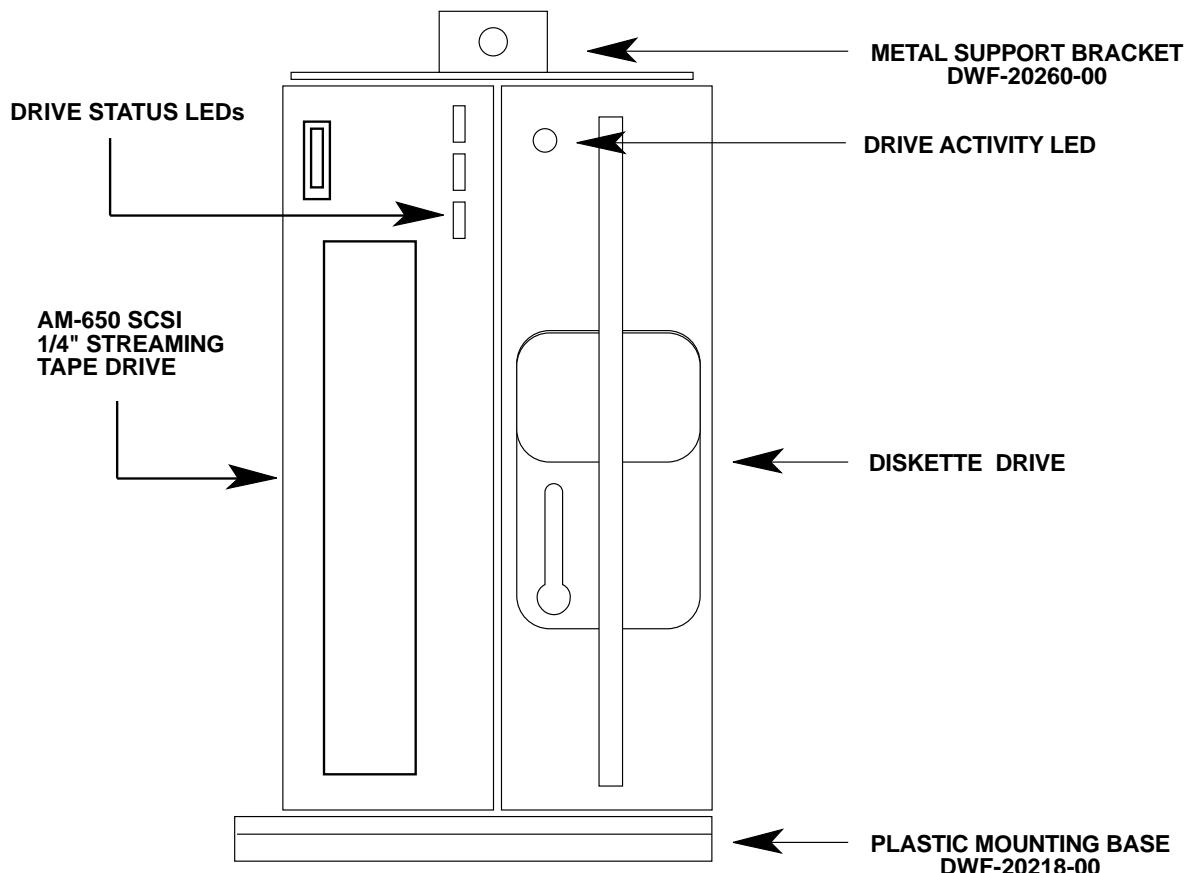
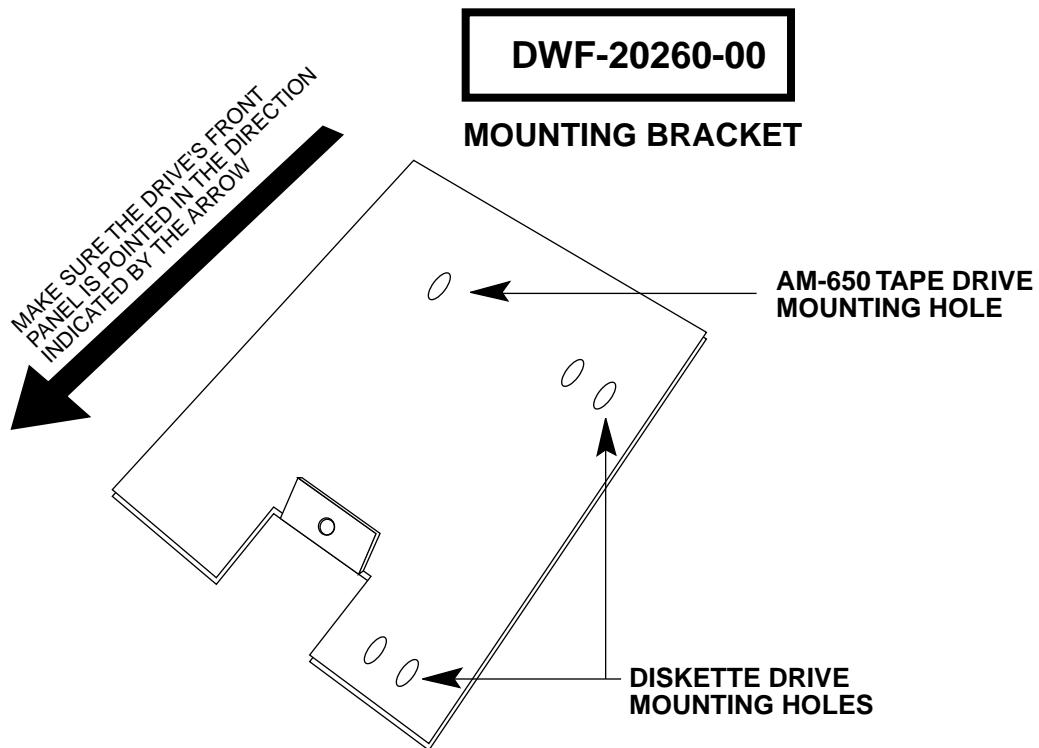

Figure 3 - Tape Drive Mounting Assembly
Figure 5 - Metal Support Bracket
| Figure 3 - Tape Drive Mounting Assembly | 8 |
| Figure 5 - Metal Support Bracket | 10 |
1. Set the drive on top of the plastic mounting base with its status LEDs away from the plastic mounting base. This insures the drive is in its proper position for both pedestal and rack mount computers. See Figure 3.
3. Install the two screws (included in the mounting kit) that hold the plastic mounting base to the drive. If you are installing a diskette drive or another tape drive along with your AM-650, mount this drive next to the AM-650, as shown in Figure 3.
5. Set the metal support bracket on top of the drive assembly as shown in Figure 3. Position the bracket so the mounting hole shown in Figure 5 aligns with the screw hole on the side of the AM-650, and the screw hole to attach the drive assembly to the front bezel aligns with the screw hole in the front bezel.